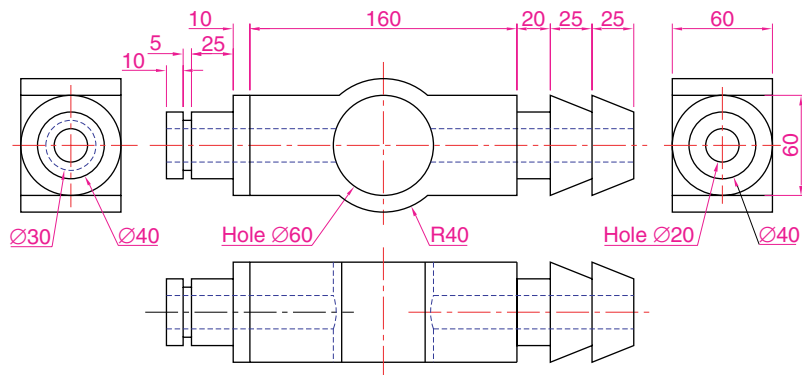

Fig. 18.23 Second example – dimensions
- 3D Navigate/Top.** Construct polyline outlines for the body extrusion and the solids of revolution for the two end parts (Fig. 18.23). Extrude the body and subtract its hole and using the **Revolve** tool form the two end solids of revolution.